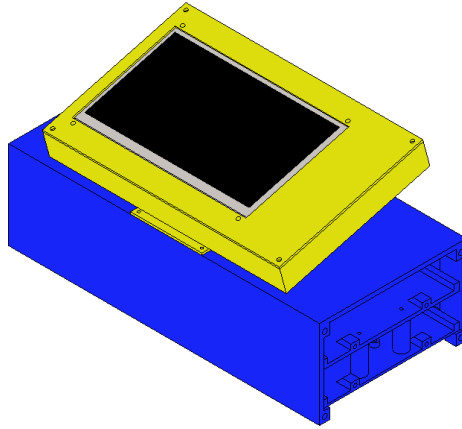

Figure 38: *Electronics case* with the trays secured in place.
8. Identify the *electronics board tray* and the *Raspi board tray*. Both board trays have holes on their top surface that are intended for M2 and M3 inserts. The *electronics board tray* has two (2) holes for M3 inserts. Place the two (2) M3 inserts in the tray after heating them up. Allow for the inserts to cool down before proceeding. The *Raspi board tray* has twelve (12) holes for M2 inserts. Place the inserts into their corresponding holes after heating them up. Allow for the inserts to cool down before proceeding. The *Raspi board tray* has four (4) additional holes on top of the column-like supports of the board. These holes use M2 inserts. Place the four (4) M2 inserts in the holes at the supports. Attach the electronics to the board trays using M2 screws. Make sure to have soldered the required cables and connectors to the components before attaching them to the trays. Place the *electronics board tray* on top of the *Raspi board tray* and attach the latter with four (4) M2 screws. Locate the holes at the lateral parts of the trays and place eighth (8) M2 heated inserts into them. Allow the inserts to cool down. Insert the trays into the *electronics case* and secure them with four (4) M2 screws. It must be noted that the electronics connections of the boards will be addressed in the field setup. The assembly is shown on figure 38.